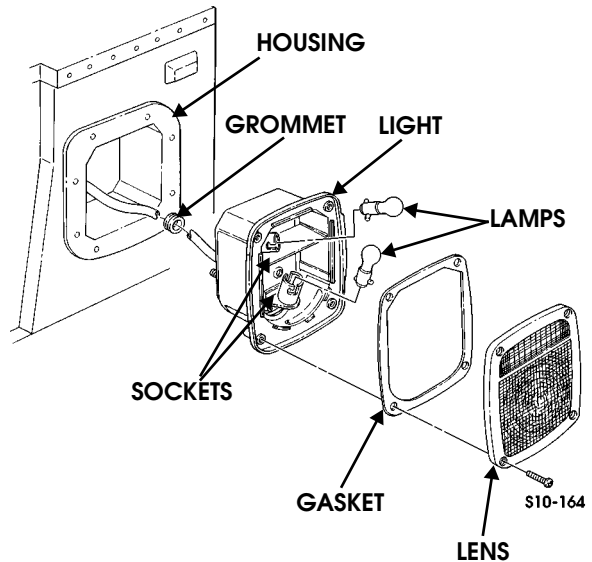
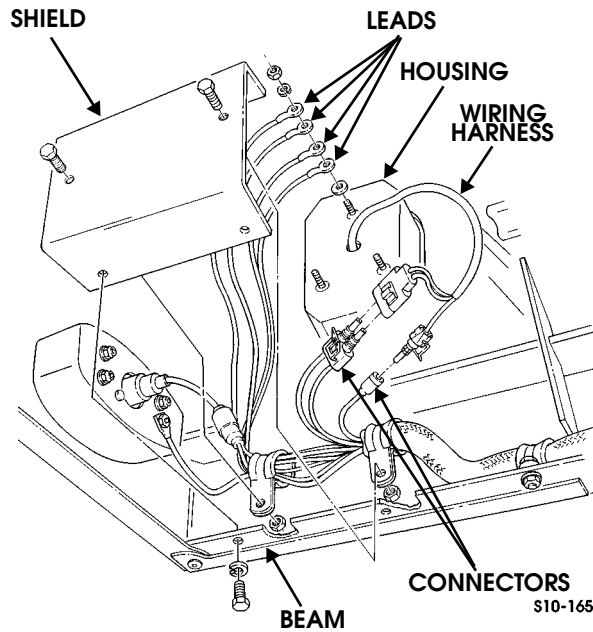

Figure 10-166: Rear Turn Signal Light Assembly
Figure 10-167: Shield and Wiring Location
1. Remove four screws, lens, and gasket from turn signal light (Figure 10-166).
3. From behind the light, remove three nuts, lockwashers, four leads, and three washers securing light to light housing (Figures 10-166 and 10-167).
4. Remove two nuts, clamps, and screws securing harness to shield (Figure 10-167).
7. Remove light and grommet from housing (Figure 10-166).
1. Install light and grommet in housing (Figure 10-166).
2. Connect two connectors to wiring harness (Figure 10-167).
5. Secure light to light housing with three washers, four leads, three lockwashers, and nuts (Figure 10-166) and (Figure 10-167).
6. Install two lamps in sockets (Figure 10-166).